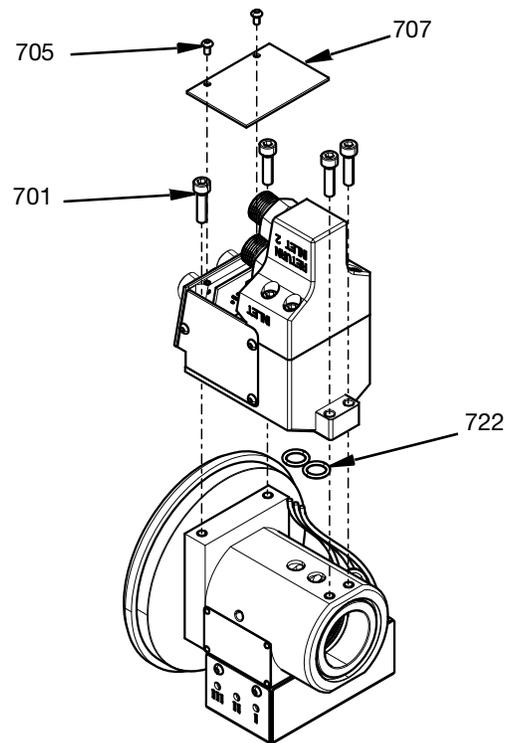

FIG. 21
- Remove the top cover (707) by removing the two M3 cover screws (705).
- The four M5 screws (701) can then be removed to separate the connection housing assembly from the swivel chamber assembly.
Sensors or plugs can now be accessed. O-Rings (722) should be replaced with new ones before reassembly. See FIG. 21.